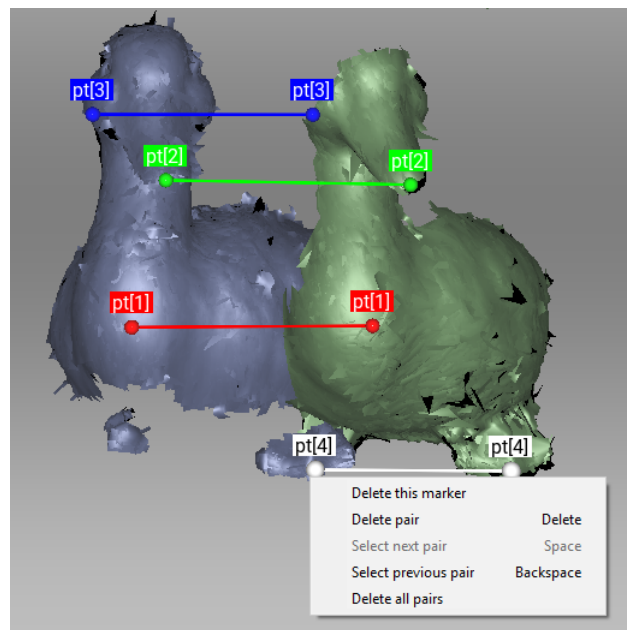
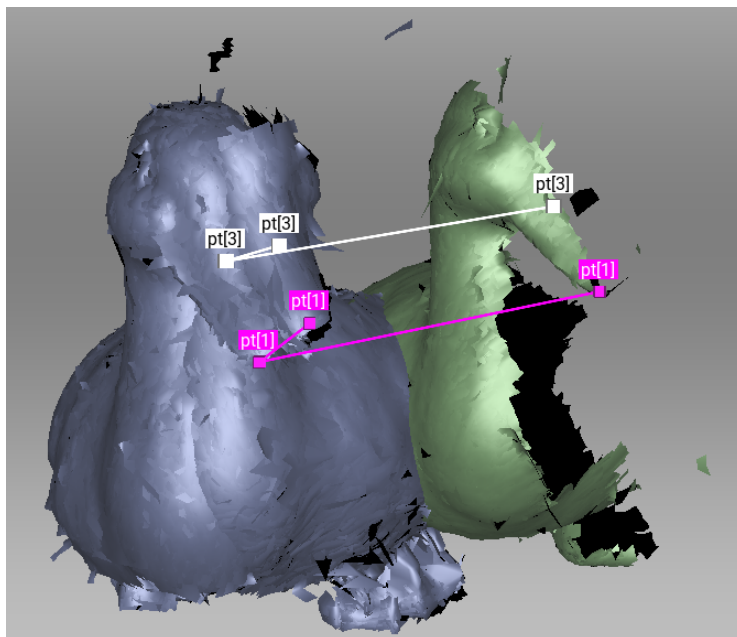

Figure 87: Creation of point pair.
Figure 95: Before alignment: two point-set added.
set from the left panel, because the set may comprise multiple points (see Figure 87 and Figure 95).
3. Specify several point pairs (Figure 87), keeping in mind the recommendations from Specifying Points and Editing Their Positions.
3. Specify one or more point sets on the scan surface (see Figure 95), keeping in mind the recommendations in Specifying Points and Editing Their Positions.